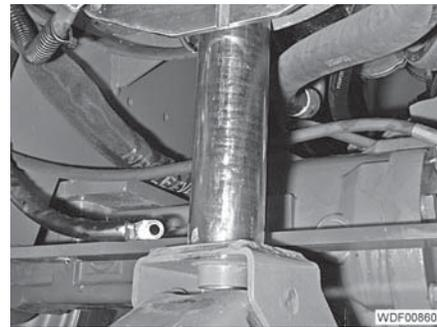

Fig. 36 Clutch bell support
- Raise the clutch bell slightly (e.g. with a jack) (Fig. 36).